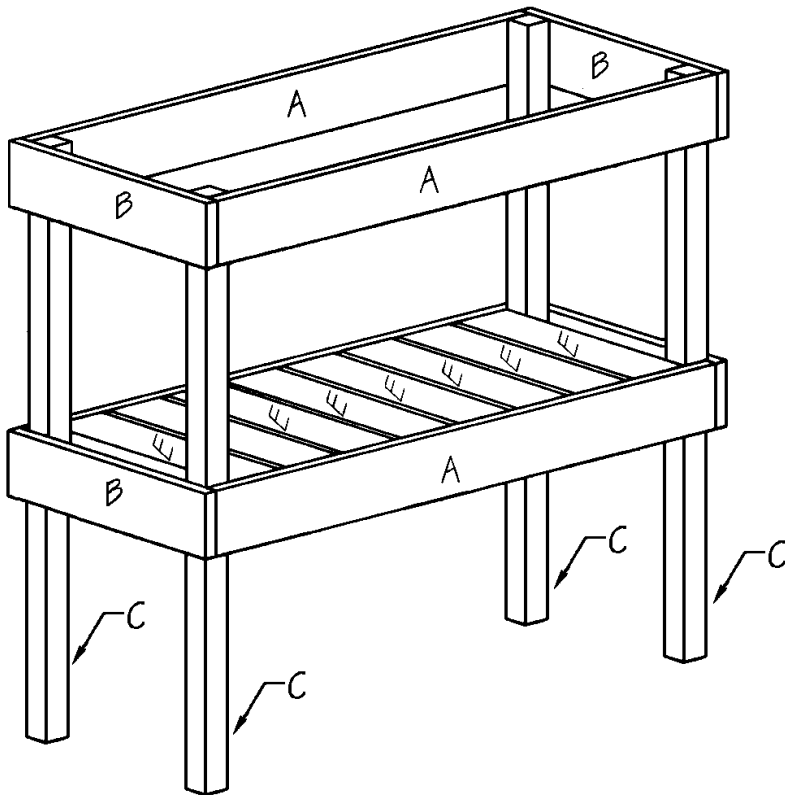

Figure 5
4. Place the eight Shelf Boards (E) between the Long sides (A) over the Support Trims (D), as shown in *Figure 5*. Space the Shelf Boards (E) approximately 1/2-inch apart. Apply glue to the meeting surfaces, and nail through the Shelf Boards (E) into the Support Trims (D) using two 1-1/4" finishing nails on each joint.